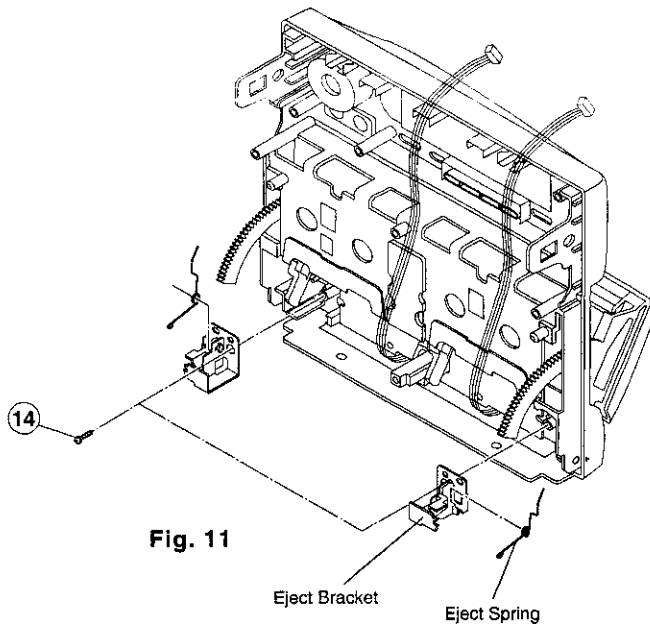

Fig. 11
11. **Removal of Eject Bracket (Fig. 11)**